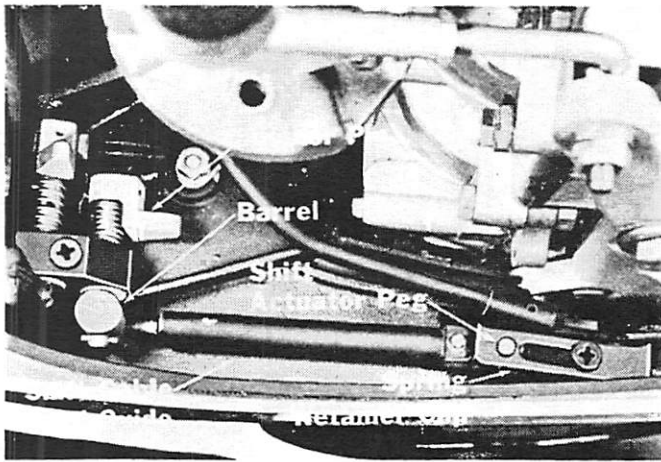

Figure 6. Secure Brass Barrel with Anchor Pin
5. Secure cable end guide by sliding spring retainer clip over cable end guide. Be sure that hole in spring retainer clip is centered over peg. (Figure 6)
6. Secure brass barrel with anchor pin. If necessary, readjust brass barrel for correct position and to compensate for cable backlash. (Figure 6)